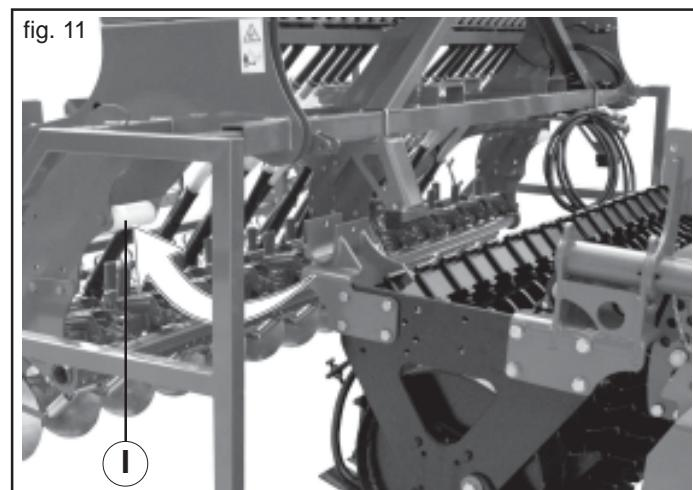

fig. 11
- 3) With the tractor come closer the seeder and, by operating on the lifter, hook the equipment in the suitable points (I, Fig. 11). Check, that there aren't or can't be interferences among the mechanical members of the two machines. Especially check the area between the hind roller and the coulter arms (Fig. 13).